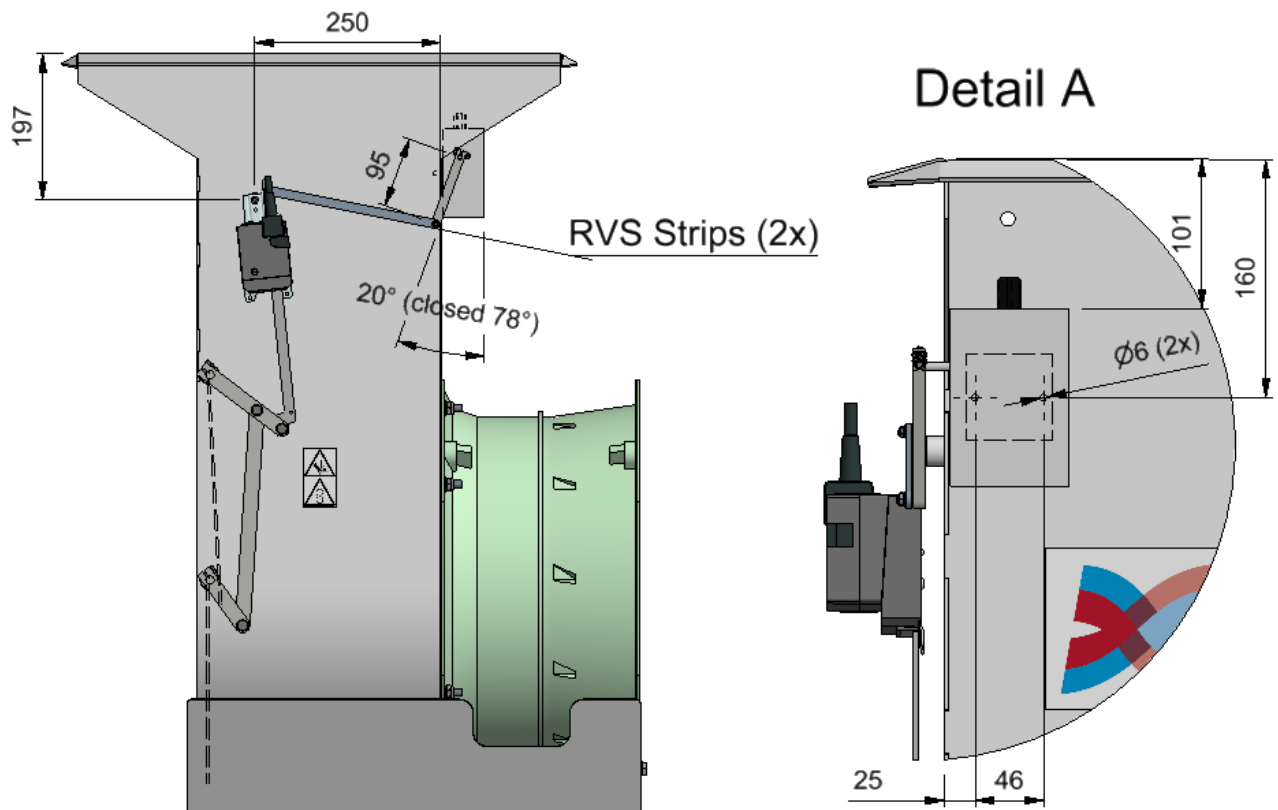

Figure 11 Mounting valve position sensor
- Drill two 6-mm holes in the Airmix housing, see Figure 11;